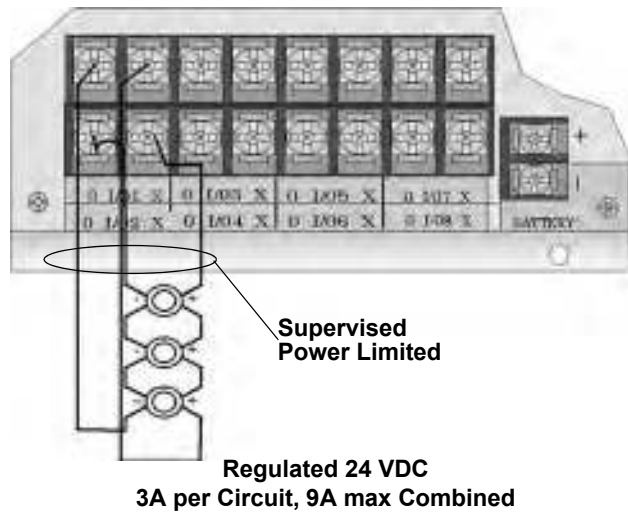

Figure 4-33 Class A Notification Appliance Circuit Configuration
- Wire the Class A notification appliances as shown in Figure 4-33.
Note: In programming any point that uses multiple Flexput circuits, the lowest Flexput circuit number is used to refer to the circuit pair. For example, Figure 4-33 uses both Flexput circuit 1 and 2, so in programming it would be referred to as point 1.